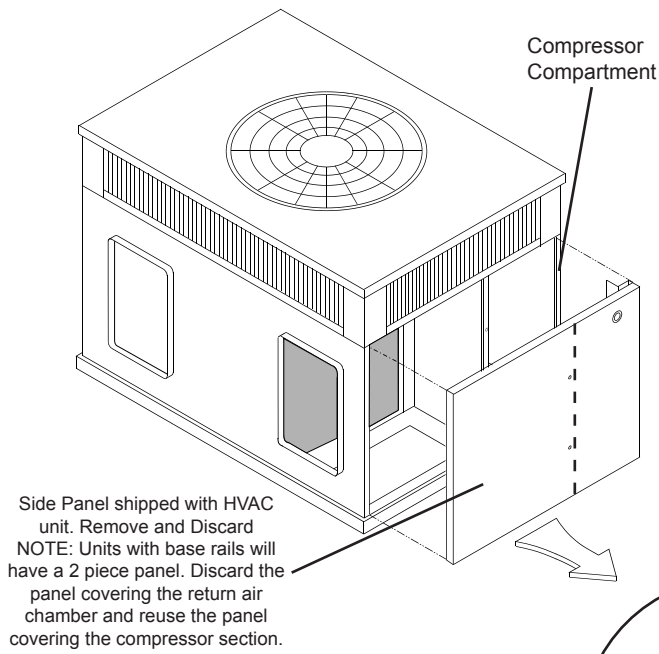

Fig. 3 - Panel Removal
2. Remove the compressor access panel and unit side panel. See Fig. 3.